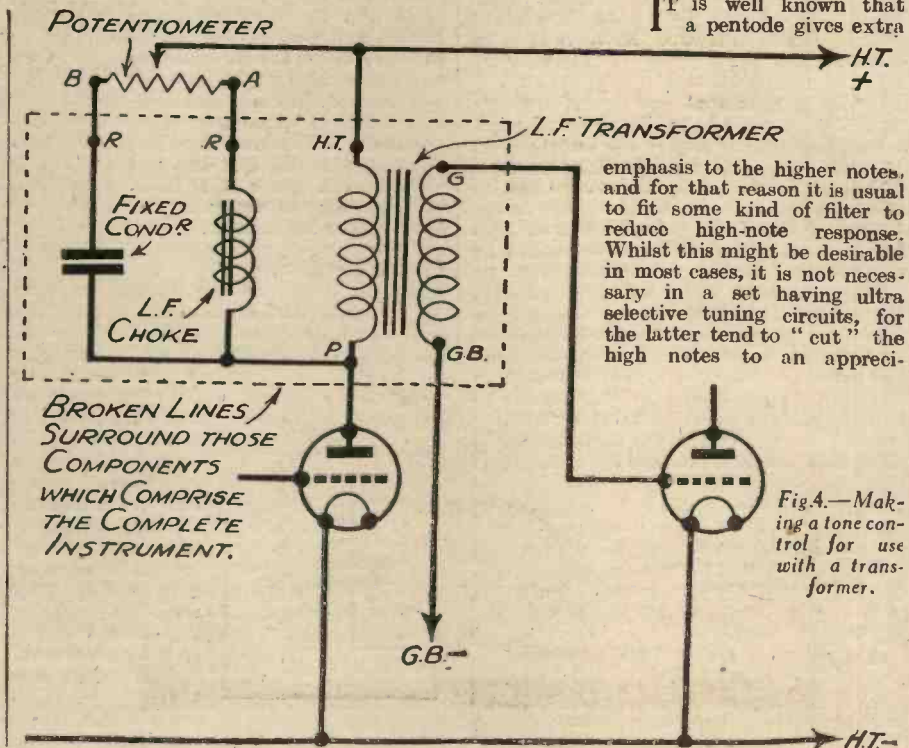

Fig. 4.—Making a tone control for use with a transformer.
transformer, (2) a small L.F. choke, and (3) a fixed condenser. The way in which they are wired up is shown in Fig. 4, and it will be seen that one side of both the choke and the condenser is connected to the plate end of the transformer primary. An external potentiometer (generally .25 megohm or so) is joined between the other end of these components, and the slider is connected to H.T. positive. When the potentiometer slider is moved to the end marked "A" the L.F. choke is put in parallel with the transformer primary, but when moved to position "B," the fixed condenser is in parallel with the primary. By moving the potentiometer slider between ends "A" and "B," the choke and condenser are made to have varying effects on the primary winding. Now the effect of the choke is to reduce the inductance of the plate circuit, and as the inductance is reduced the lower frequencies are able to leak away through the plate circuit, and so escape amplification. The condenser acts in reverse fashion by providing a leakage path for the higher musical frequencies. It will thus be clear that either high or low notes can be suppressed (or reduced in intensity) by adjusting the potentiometer.